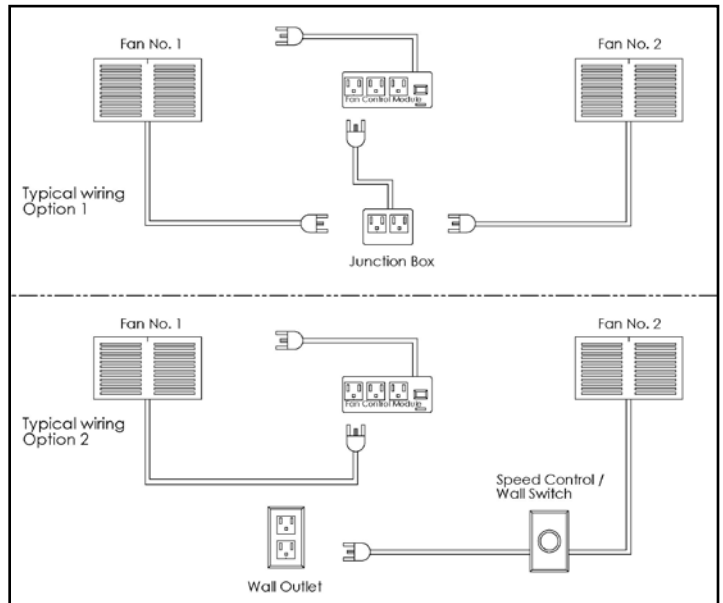

Figure 9: Fan wiring options.
- g) For wiring options see Figure 9.